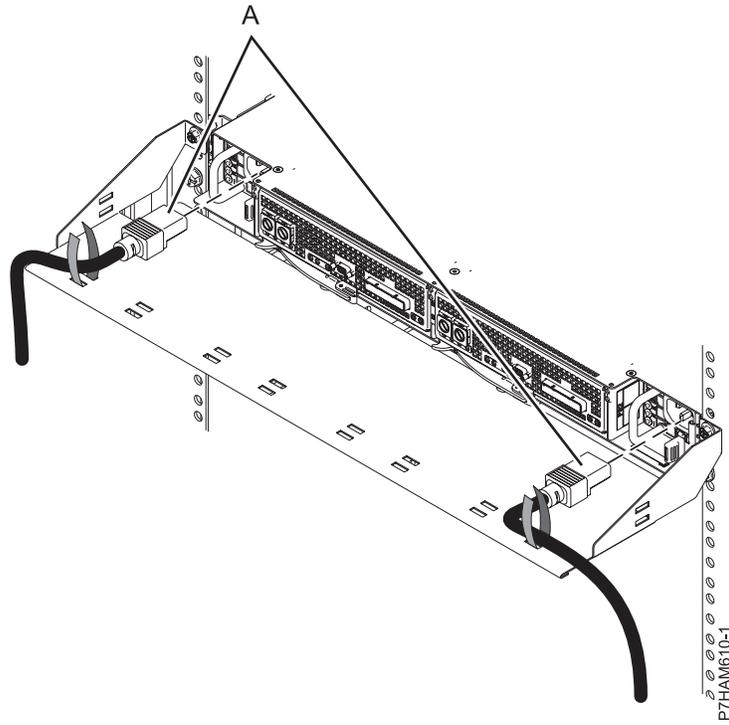

Figure 14. Installing the power cords
- f. At the rear of the rack, install the power cables (A), as shown in Figure 14 on page 13. Use Velcro ties to secure the power cords to the cable management bracket.